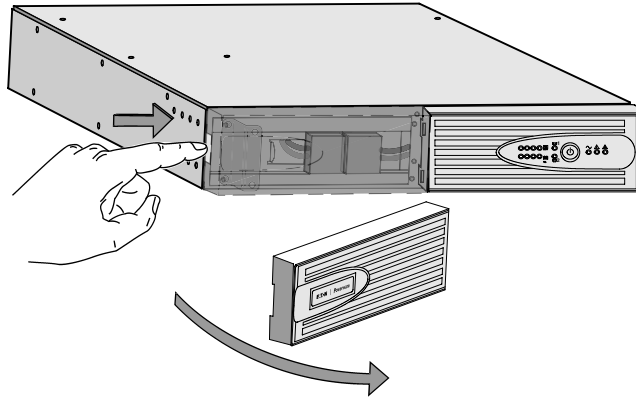

Figure 25. Removing the UPS Front Cover
1. Remove the UPS front cover. Press the button on the left side of the cover and then pull the left side (see Figure 25).